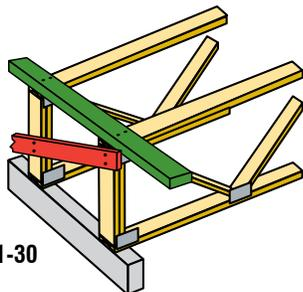

FIGURE B1-30
- ✓ **NOTE:** End diagonals, with TCTLR or Ribbon (band) board, blocking panels, or rim board as specified by the Building Designer, are essential for stability and must be installed on both ends of the Truss System and repeated every 15 Truss spaces (30' maximum). See Figures B1-30, 31, 32 and 33.
See NOTE above and Figures B1-30, 31, 32 and 33.